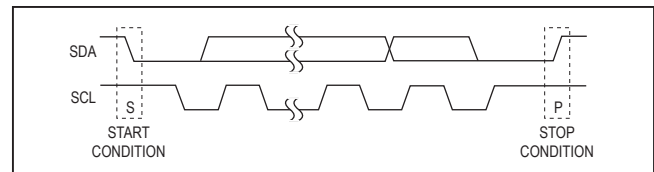

Figure 2. START and STOP Conditions
Each transmission consists of a START condition sent by a master, followed by the MAX7323's 7-bit slave address plus R/W bit, 1 or more data bytes, and finally a STOP condition (Figure 2).
Both SCL and SDA remain high when the interface is not busy. A master signals the beginning of a transmission with a START (S) condition by transitioning SDA from high to low while SCL is high. When the master has finished communicating with the slave, the master issues a STOP (P) condition by transitioning SDA from low to high while SCL is high. The bus is then free for another transmission (Figure 2).